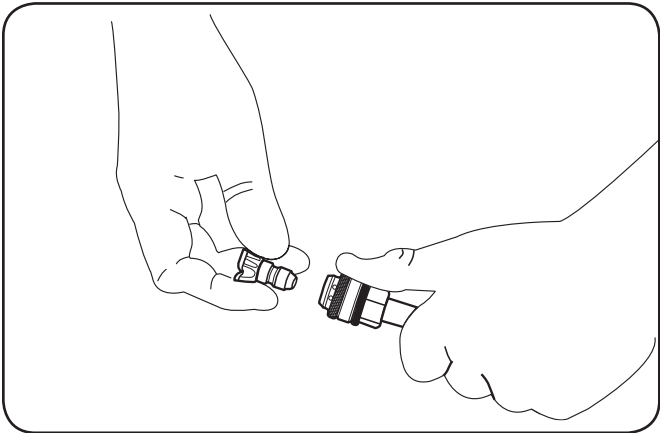

Figure 4-2
1. Pull quick-connect coupler back and insert nozzle. See Figure 4-2.